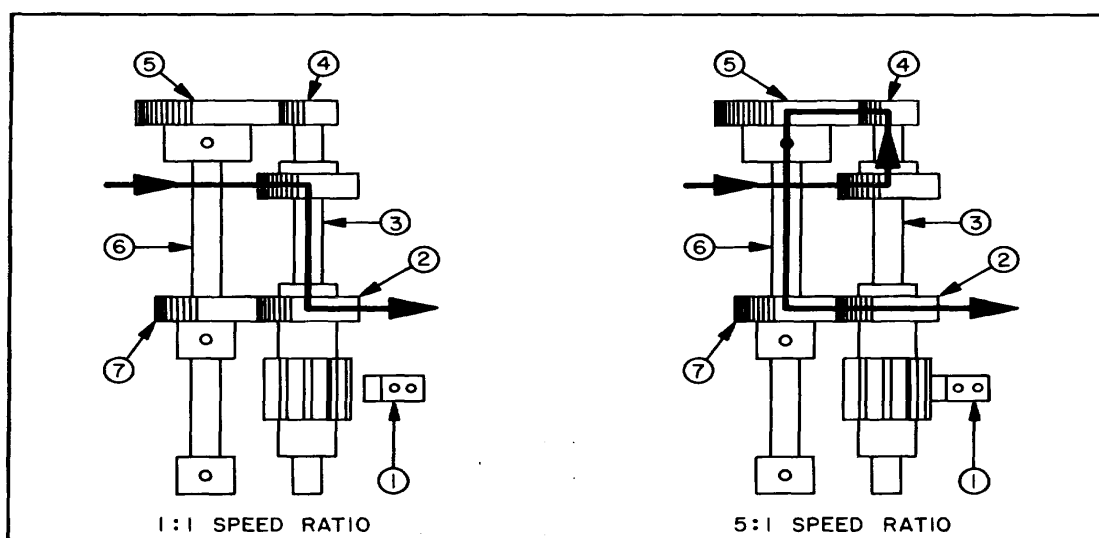

Figure 4-16. First Speed Reduction Assembly Operation
4-42. The power flow through the first speed reduction assembly is shown in Figure 4-16. For 1:1 speed ratio, the pushbutton linkage pulls the clutch actuator arm (1) away from the clutch housing. This action locks the gear (2) to shaft (3). The resulting power flow by-passes the 5:1 speed reduction gears (4) (5), on the upper end of the two shafts. An overriding clutch, mounted in the gear hub (5) disengages gear (5) from shaft (6). For 5:1 speed transfer, the push-button linkage causes the clutch actuator arm to engage with the clutch housing, preventing the housing from rotating. This action releases gear (2), permitting it to rotate freely on shaft (3). The power flow is from shaft (3) through the reduction gears (4), (5), to shaft (6). Gear (7) then drives the output gear (2).